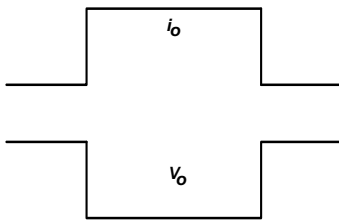

FIGURE 25. DESIRED LOAD TRANSIENT RESPONSE WAVEFORMS
Assuming the compensator design is correct, Figure 25 shows the expected load transient response waveforms if  $C_n$  is correctly selected. When the load current  $I_{core}$  has a square change, the output voltage  $V_{core}$  also has a square response.
Figure 25 shows the desired load transient response waveforms. Figure 31 shows the equivalent circuit of a voltage regulator (VR) with the droop function. A VR is equivalent to a voltage source (= VID) and output impedance  $Z_{out}(s)$ . If  $Z_{out}(s)$  is equal to the load-line slope LL, i.e., a constant output impedance, then in the entire frequency range,  $V_o$  will have a square response when  $i_o$  has a square change.